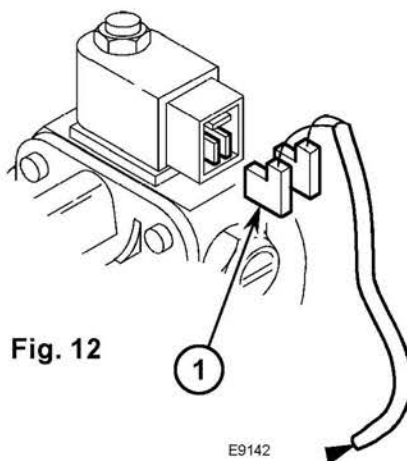

Fig. 12
The faston (1) of the oil valve connection must be plugged in as indicated in fig. 12.